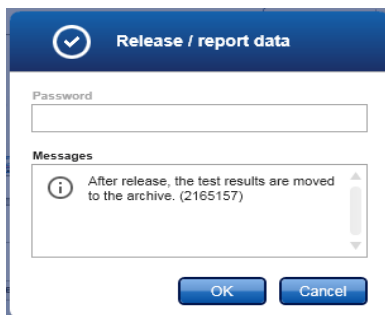

Figure 19. “Release/report data” dialog.
18. Click **OK** to save the experiment to the archive and create a LIMS output and run report (Figure 19). Run reports and LIMS exports will be saved in the default report directory. The default directory can be found in the data export directories in the “Configuration” tab.